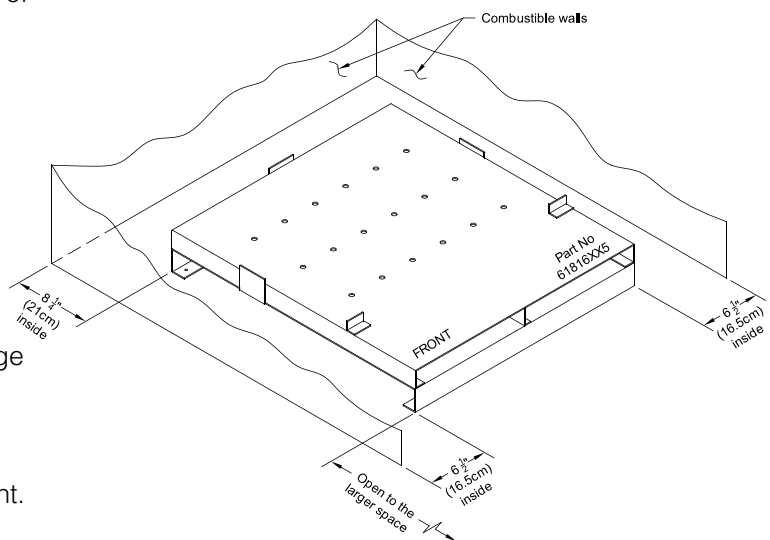

Figure 2-4: Installation of Special Base for Combustible Flooring
- E. Install special base if installation is on combustible flooring. See Figure 2-4. Floor shield adds 4¾ in. to boiler height.
2. Locate special base with spacing to combustible materials as shown in Figure 2-4.